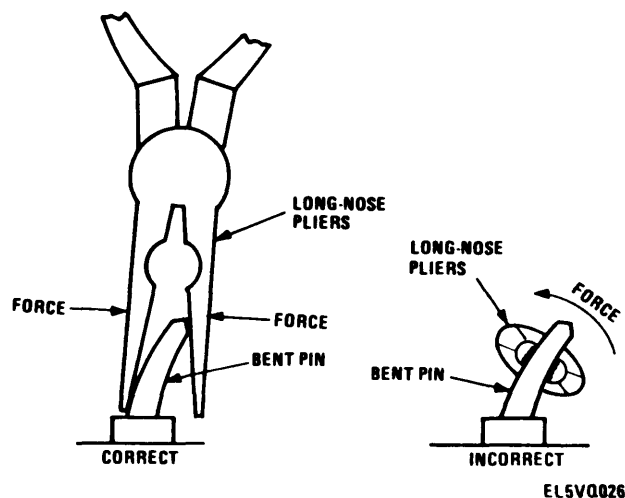

Figure 3-11. Pin Straightening procedure.
a. Always inspect a module for bent or broken pins before inserting it into the frame sockets. To straighten bent pins, use needle-nose or long-nose pliers with smooth jaws. Position the jaws so that the whole pin is straightened simultaneously (see fig. 3-11).